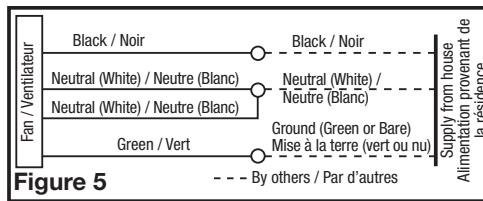

Figure 5
1. Connect the 2 loose White wires from the range hood to the White wire from the supply, and the loose Black wire from the range hood to the Black wire of the supply. Connect the ground wire (green or bare) from the supply to the green ground screw of the hood. Use approved methods for all connections (Figure 5).
dénudé) de l'alimentation à la vis verte de mise à la terre de la hotte. Utiliser des méthodes de connexion approuvées pour toutes les connexions (Figure 5).